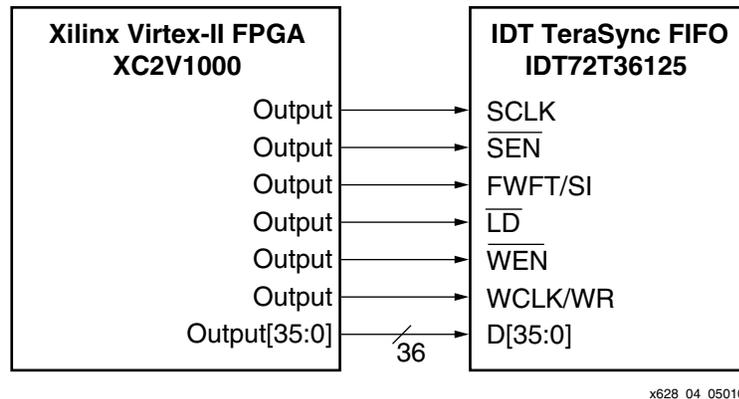

Figure 4: Signals Relevant for Serial and Parallel Programming of PAE and PAF Registers
In serial programming, individual registers cannot be programmed selectively. The empty offset register is programmed first followed by the full offset register, all in one continuous cycle before setting the  $\overline{\text{LD}}$  and/or  $\overline{\text{SEN}}$  to inactive. Figure 4 is a block diagram of signals associated with serial and parallel programming along with sample Verilog code (2) for serial programming of the IDT72T36125 PAE and PAF offset registers in IDT standard mode is included in the reference design file on the IDT web site. The offset registers can not be read serially.